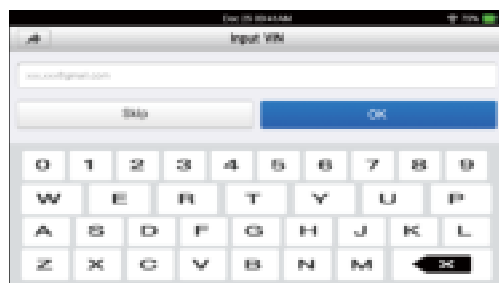

Fig. 5-2
- 2 Locate vehicle's DLC socket. It provides standard 16 pins and is generally located on driver's side, about 12 inches away from the corner of dashboard. See Figure 5-2. If DLC is not equipped under dashboard, a label indicating its position will be given. In case no DLC is found, please refer to Automobile Repair Manual.